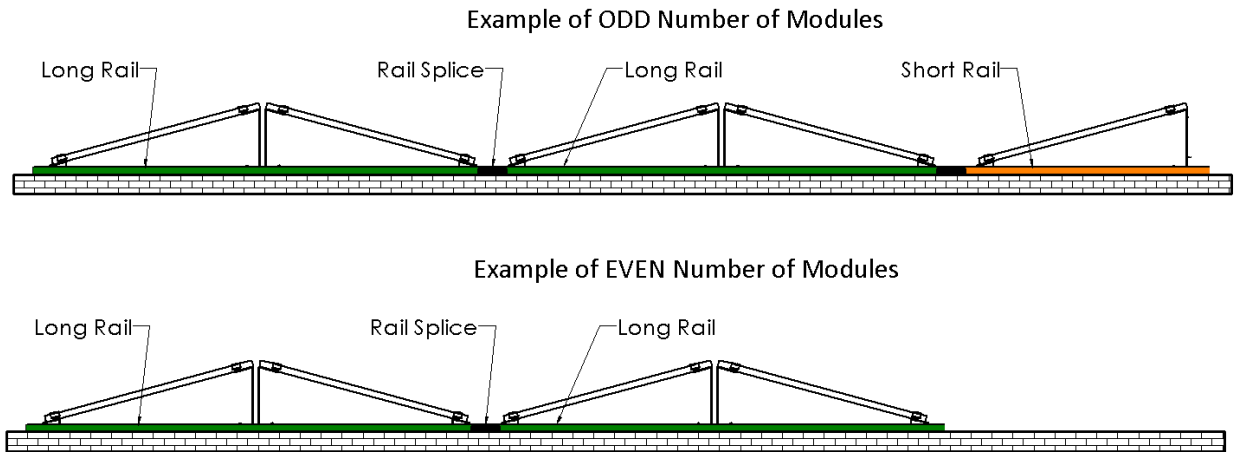

Figure 1 – Use your Rail Table to determine which size of Rail to use
- 2 Place your first Rail for an array. Refer to your *Rail Table* and *Layout Diagram* (Figure 1). The *Rail Table* provides the Rail size (short or long). The *Layout Diagram* provides the system location relative to the roof edge.
**Tip:** Your first Rail for a column of panels may be SHORT or LONG, depending on the number of panels in a column. Use your *Rail Table* to determine which combination of Rails to use, per Figure 1.